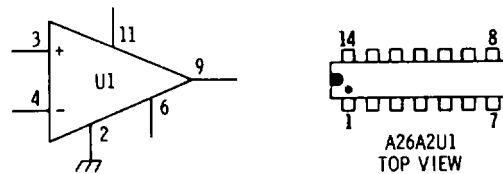

Figure 7-4. A26A2U1 Backdating (Change E).
- Change the pin configuration on the symbol and drawing for A26A2U1 shown in Figure 7-4.